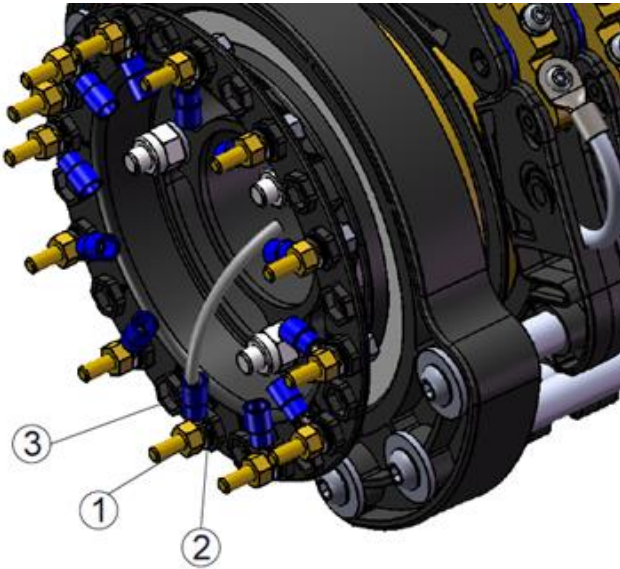

Fig. 15
- Loosen the screw of the terminal blocks (1) (Fig.15)
- Position the termination (2) on the terminal blocks according the labelling of terminal board
- Secure the termination with the screw of the terminal blocks (1).